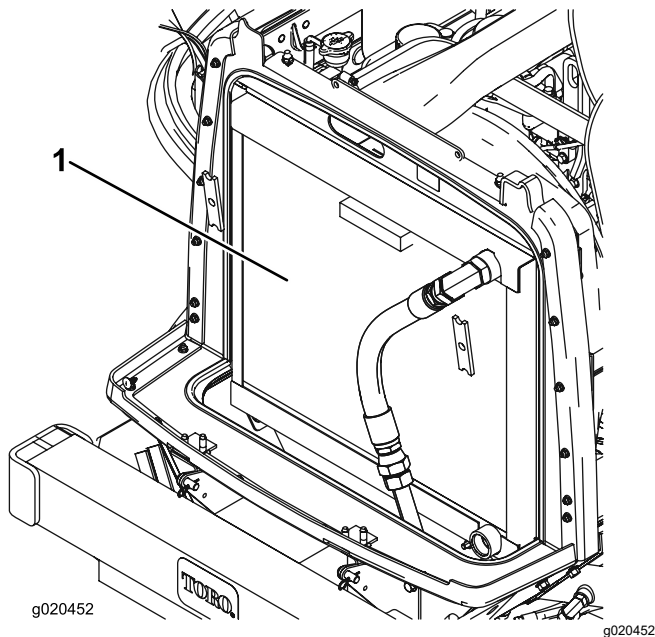

Figure 73
3. Clean both sides of the radiator/oil cooler area thoroughly with compressed air (Figure 73).